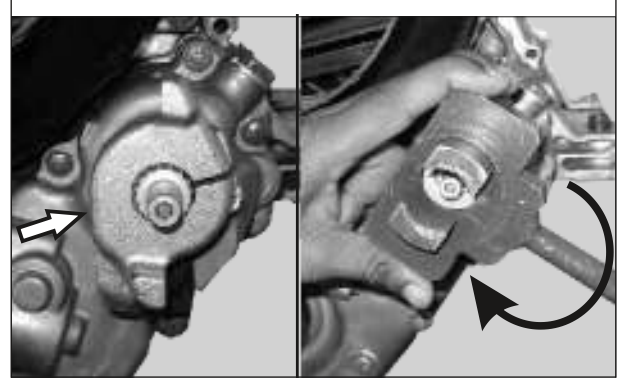

Fig. 3.170
- Then rotate the dog driven using special tool by one and a half turn in clock wise direction and press the dog driven fully inside and remove the tool carefully. (Fig. 3.170)